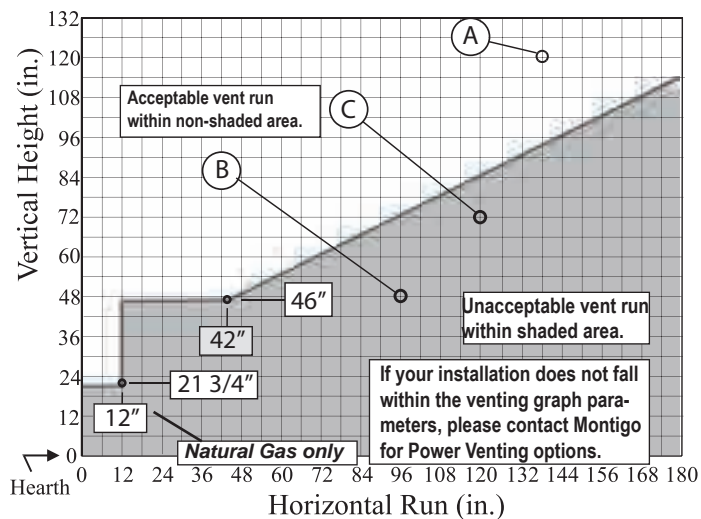

Figure 15. Rear Vent Venting Graph for wall mounted terminations.
- Vent runs must fall within the limits set by the venting graphs, see Figure 15.
Measure the vertical height from the fireplace hearth to the centre of the termination and the horizontal run from the fireplace flue collar to the wall flange of the termination. Plot on the Venting Graph Figure 15 with an 'X'.
Figure 15b. Rear Vented, wall mounted Multi-elbow termination installation. The vent run must comply with the Venting Graph for Rear vent, wall mounted terminations, Figure 15.